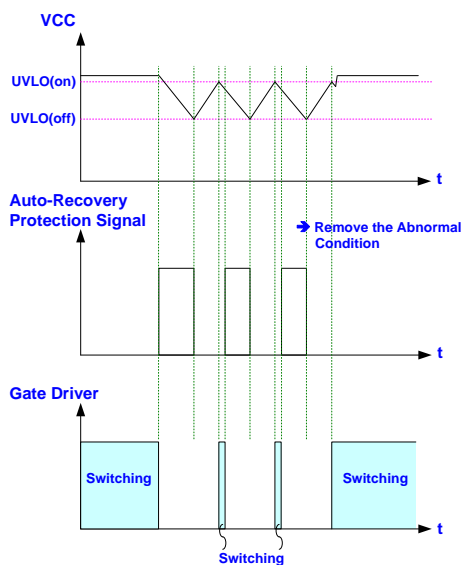

Fig. 35
As auto-recovery protection circuit latches the operation, the gate output will switch for a short term as every time VCC rises back to UVLO(ON). It therefore forces the VCC hiccup between UVLO(ON) and UVLO(OFF). As soon as the fault condition is removed, the system will resume its operation right away. Fig. 35 shows the operation.